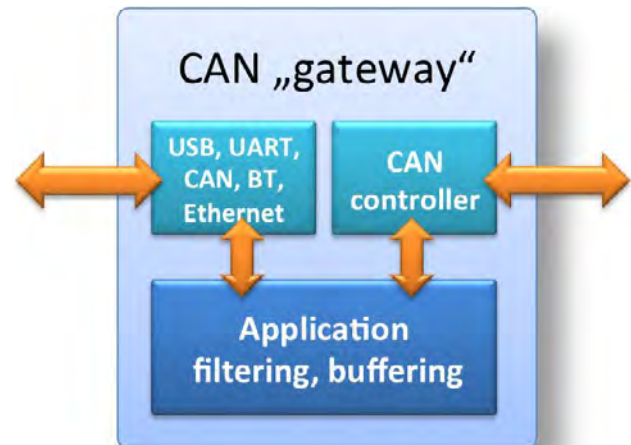

Figure 1: CAN interface, bridge, or gateway with „unlimited“ message forwarding (Photo: EmSA)
Figure 1: The subdivision on two segments (CAN FD and Classical CAN) has the advantage that the software adaptation is minimal at an incremental migration (Photo: CiA)
However, it still depends on the specific application how much security is needed for a particular functionality. A subnetwork in the seat of a passenger vehicle to control comfort functions like position or seat heating won't require the same level of security as the active steering component. The multiple networks in these vehicles are a good example to illustrate what we must change in our mindset for future, more secure applications. Bigger vehicles use multiple busses, some will be based on CAN (FD), others could be using LIN or some Ethernet variant. Crucial for the separation of various level of security are the interfaces, bridges, and gateways between the networks. In the past, the design for all these focused on high performance and throughput as well as reusability and flexibility. Often that meant generic, unlimited access and unlimited and transparent communication between the networks as illustrated by Figure 1.